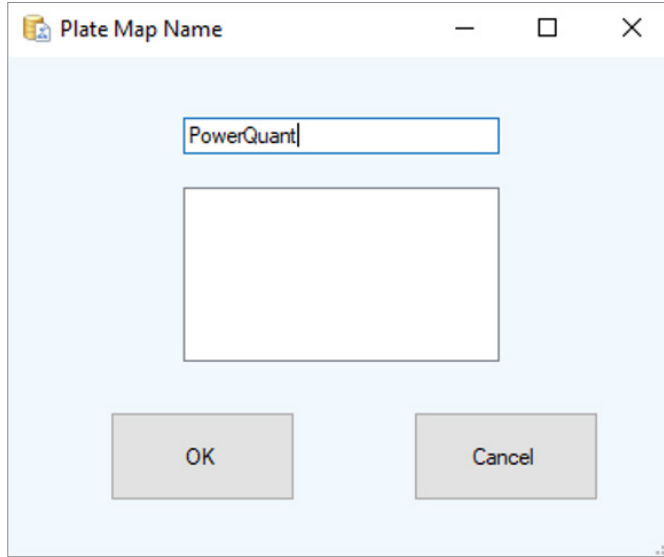

Figure 71. 'Plate Map Name' dialog box.
7. Enter a name for the plate map in the 'Plate Map Name' dialog box and select the **OK** button (Figure 71).